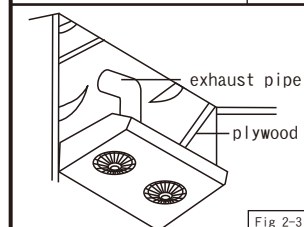

Fig 2-3
- 1) Exhaust vent is located on front of cooking surface (Fig2-3). Knock out one piece of glass, plywood is fitted to exhaust pipe to go through.